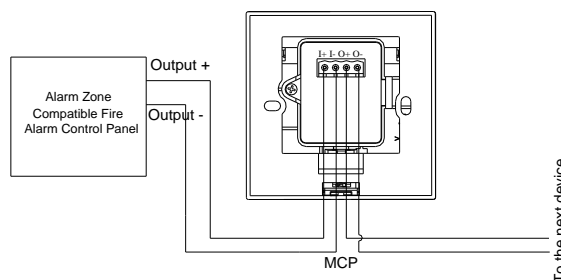

Fig. 3
- ◇ Application of the MCP is shown in Fig. 3.